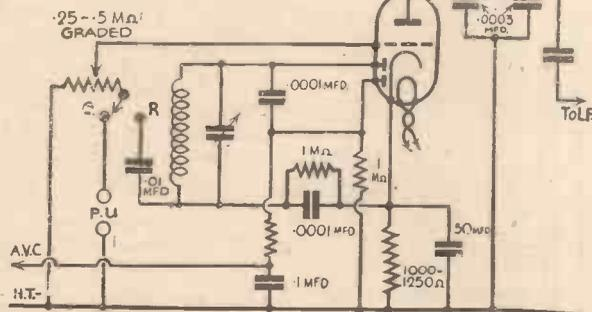

Fig. 1.—This circuit shows the connections for a double-diode triode used as second detector, A.V.C., and first L.F. amplifier.
THESE are four types of valve in the diode-L.F. amplifier class, and it is not always easy for the set builder to decide as to which is most suitable for his requirements. The types referred to are the double-diode-triode, the double-diode-variable-mu pentode, the double-diode output pentode, and the triple-diode triode. The first is best known, and is available in all makes for both A.C. and battery operation. Like the other valves in the category we are considering, it consists of two valves mounted together on one base and in a single glass envelope. One of the diodes may be used for detection, or second detection, the other being used to provide a variable negative voltage, as required for A.V.C. A typical valve of this kind is the Cossor D.D.T., which is shown in the circuit Fig. 1; the pin connections are indicated in Fig. 2, and technical details are given in a panel on this page. With regard to the latter, it will be seen that details are only given in respect of the L.F. portion of the valve, since the diode does not have grid-volts anode-current characteristic curves, as explained in a previous section of this series.
T.D.D.4 (both double-diode triodes), and the Cossor D.D.T. mentioned above. It can also be used in a circuit similar to that reproduced in Fig. 1, with an additional H.T. circuit for the auxiliary grid of the pentode section.